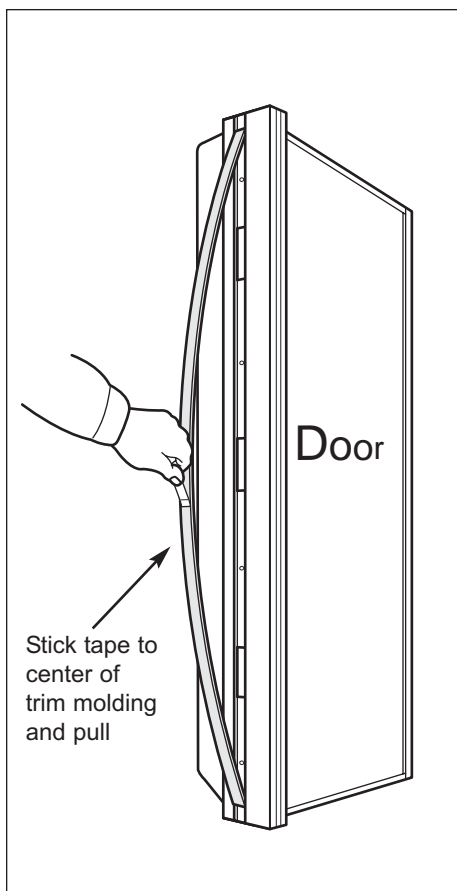

Figure 2-11. Molding Removal
1. Using a piece of tape stuck to magnetic trim molding center, pull trim molding out at midpoint to expose handle/trim mounting screws (See Figure 2-11).